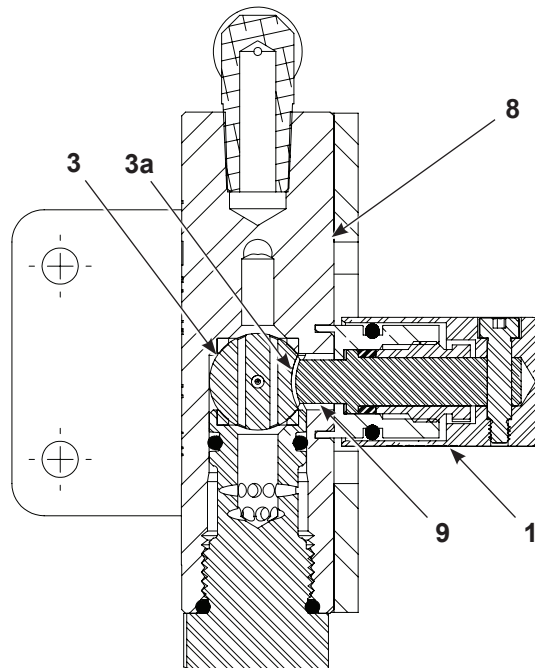

Figure 3 Cross-section View of Stem Seated in Notch
1. Apply low temperature lithium grease to the replacement lower seat (4) and upper seat (7).
3. Using the installation tool, insert the upper seat (7) into the manifold body (8), ensuring the flat bottom side is seated properly in the manifold.
4. Turn the the flow selector knob (1) to the *Bypass* position to ready the knob's internal stem to engage with the machined notch (3a) on the orifice ball.
5. Align the bypass holes on the orifice ball (3) and the installation tool. Note, the installation tool ensures the machined notch (3a) on the orifice ball will install in a vertical position.
6. See Figure 3. Install the orifice ball (3) into the manifold body (8), ensuring the machined notch (3a) on the orifice ball fits onto the flow selector knob's stem (9) which protrudes into the inside of the manifold body (8).
7. Gently holding the orifice ball (3) in place with the installation tool, temporarily rotate the flow selector knob (1) into *Orifice* position to keep the orifice ball (3) in place. Remove the installation tool.